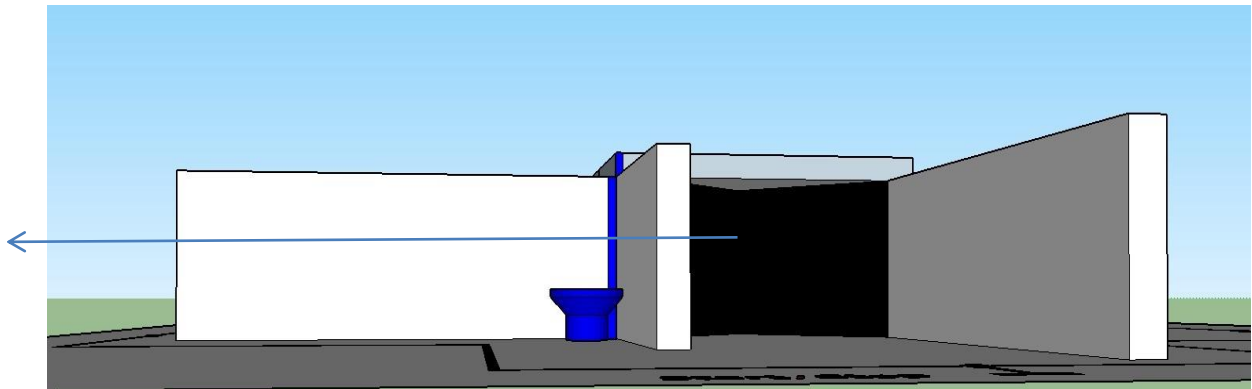

Figure 10: No leakage Zone depicted by walls covered with black chart paper.
- Only in the No Leakage Zone, where there is no Gas Leakage, the Central Walls should be covered with black chart paper (shown in Figure 10).